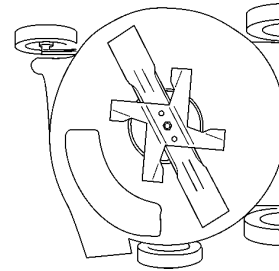

Figure 21
3. Tip the mower onto side opposite the air filter (Fig. 21). The air filter should be pointing up when mower is tipped on its side.
2. Tip the mower onto side opposite the air filter (Fig. 21). The air filter should be pointing up when mower is tipped on its side.